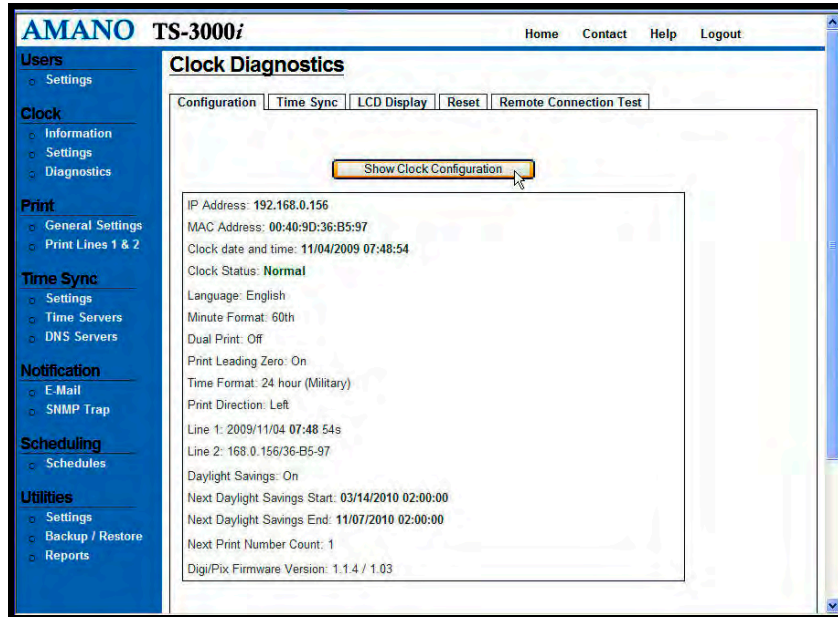

Figure 7-1: Show Clock Configuration
Step 2. Click on the  button to display the Web clock configuration information (see *Figure 7-1*).
Note – This information is read only (non-editable) and displays the clock settings, plus the current status of the clock. Any clock errors such as **E4 Prt** printing error would appear in **red** on this screen (see *Figure 7-1*).